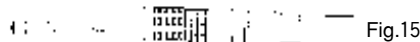

Fig.15
- ② Pull out the lamp. (Fig.15)